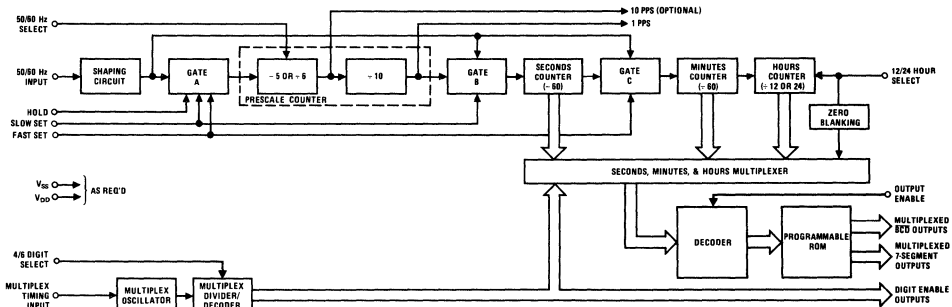

FIGURE 1. MM5311 thru MM5314 Digital Clocks, Block Diagram
A block diagram of the MM5311 thru MM5314 digital clocks is shown in Figure 1. The various functional capabilities of the clocks are listed in Table 1. Connection diagrams for these devices are shown on page 1. The following discussions are based on Figure 1.
**50 or 60 Hz Select Input:** This input programs the prescale counter to divide by either 50 or 60 to obtain a 1-pps timebase. The counter is programmed for 60 Hz operation by connecting this input to  $V_{DD}$ . An internal 20 kΩ pull-up resistor is common to this pin; simply leaving this input unconnected programs the clock for 50 Hz operation. As shown in Figure 1, the prescale counter provides both 1-pps and 10-pps signals. As shown in Table 1, the MM5312 and MM5313 clocks provide the 1-pps signal as an output. On these clocks, the 10-pps signal (in place of the 1-pps signal) may be selected as an output via a lead-bonding option.
The three gates in the counter chain (Figure 1) are used for setting time. During normal operation, gate A connects the shaper output to a prescale counter ( $\div 50$  or  $\div 60$ ); gates B and C cascade the remaining counters. Gate A is used to inhibit the input to the counters for the duration of slow, fast or hold time-setting input activity. Gate B is used to connect the shaper output directly to a seconds counter ( $\div 60$ ), the condition for slow advance. Likewise, gate C connects the shaper output directly to a minutes counter ( $\div 60$ ) for fast advance.